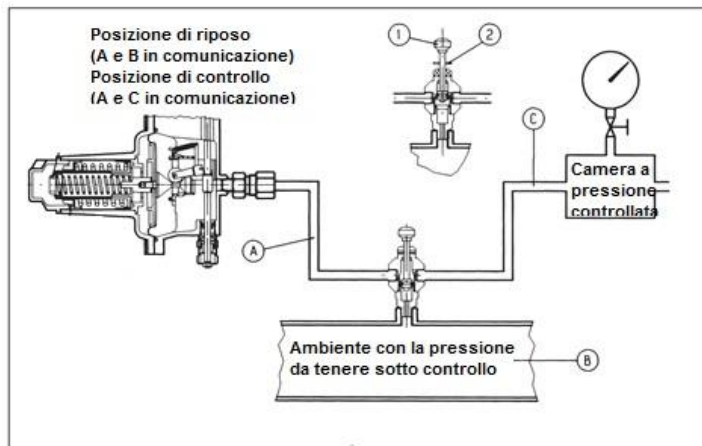

Figure 19: "Push" connection diagram
- A) For the slam-shut devices connected to the downstream piping through the "push" three-way switch valve 11, proceed as follows (fig. 19):